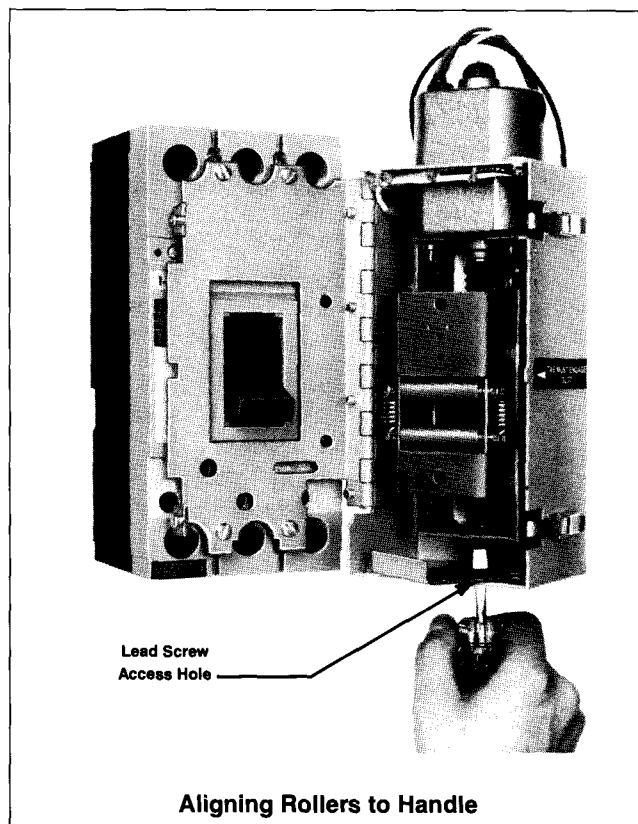

Figure 2
- D. Align the motor operator mechanism rollers and the circuit breaker handle by rotating the lead screw with a screwdriver (Figure 2). Lead screw access hole is at the bottom of the motor operator (Figure 2).